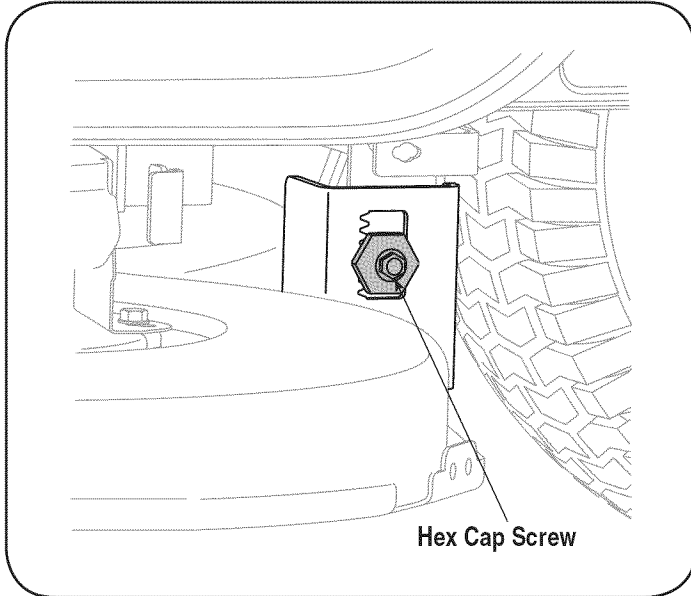

Figure 15
3. Loosen, but do NOT remove, the hex cap screw on the left deck hanger bracket. See Fig. 15.